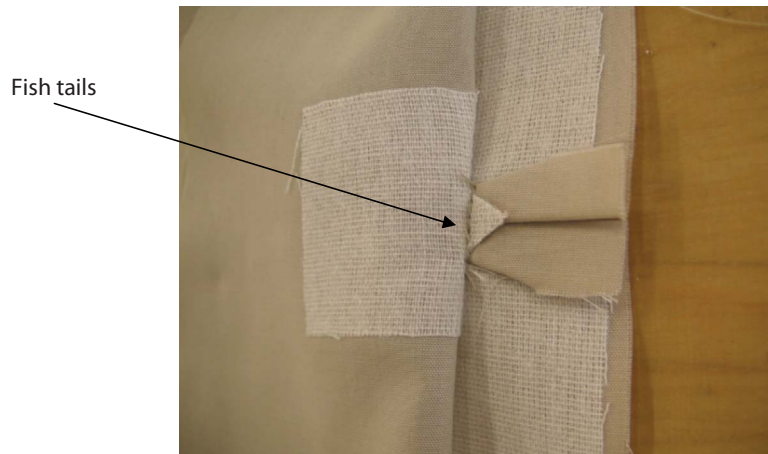

Figure 31
7. Turn to the inside of the garment and stitch to secure the mitres, frequently referred to as 'fish tails' (see Figure 31).
4. Place raw edge of welt on lower side of chalk line and attach welt to garment with a 5mm seam width using the Lockstitch (301). See Figure 31 below.